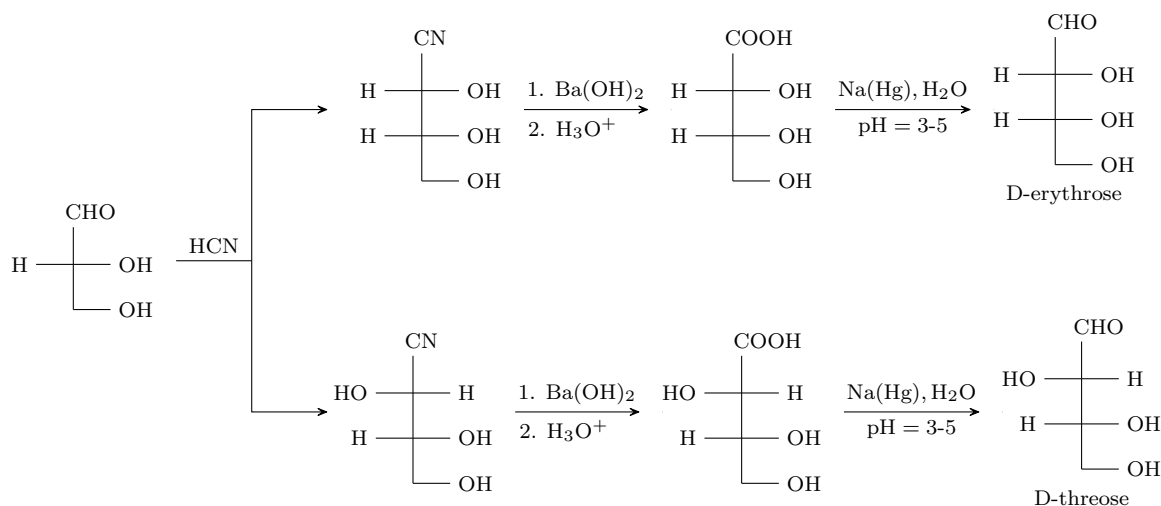

Figure 8.15: Kiliani-Fischer synthesis mechanism.
- The name “threose” differentiates the the chirality at the top carbon from that of this molecule’s diastereomer, **D-erythrose** (see Figure 8.15).